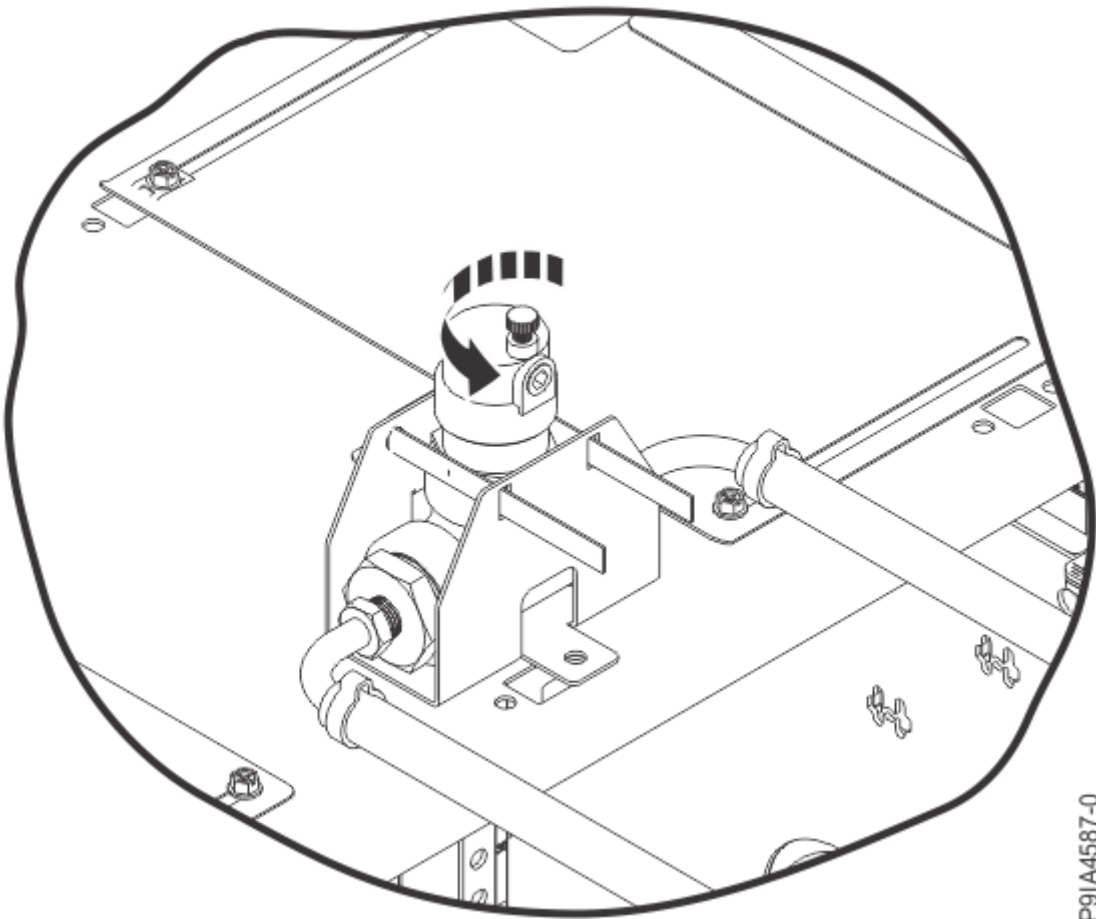

Figure 60. Opening the cap in the bleed tool
2. Ensure that the cap on the bleed tool is loosened as far as possible, but without falling off. For more information, see Figure 60 on page 84.